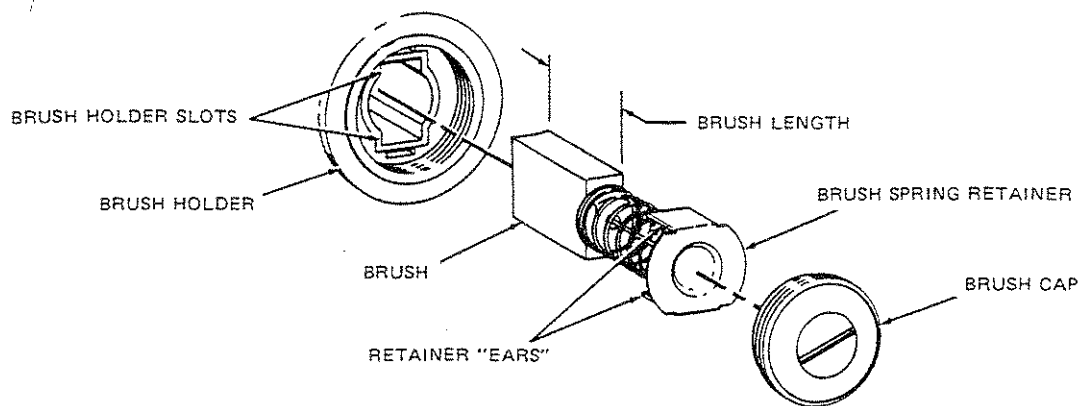

Figure 4-1. Motor Brush Assembly
4. Replace the plastic brush caps, making sure that the brush spring retainer "ears" are seated in the brush holder slots (see figure 4-1).